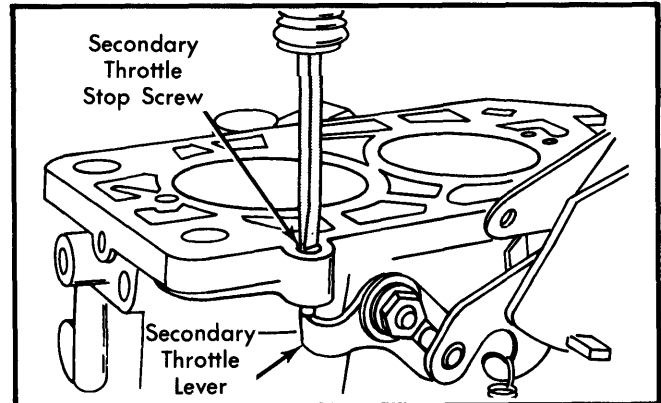

Fig. 5 Adjusting Secondary Throttle Stop Screw
1) Back off the secondary throttle stop screw until the secondary valve seats in bore. See Fig. 5.